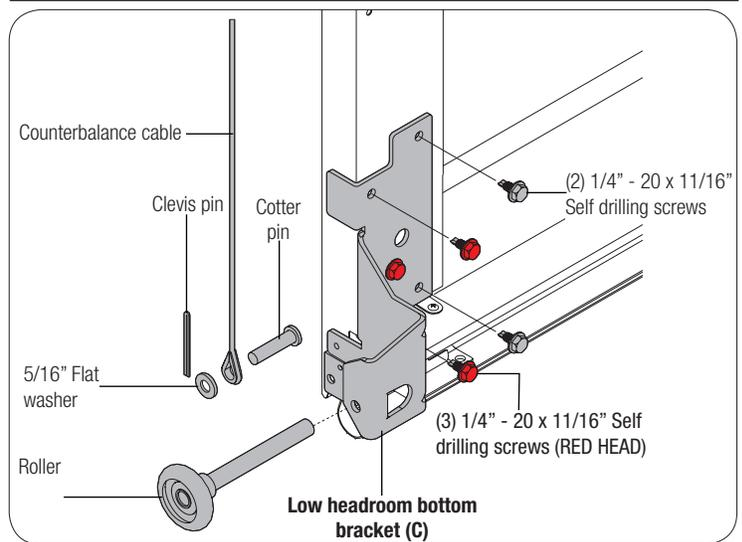

FIG. 3.3
Secure the low headroom bottom bracket to the section with (3) 1/4" - 20 x 11/16" self drilling screws (RED HEAD) and (2) 1/4" - 20 x 11/16" self drilling screws, as shown in **FIG. 3.3**.